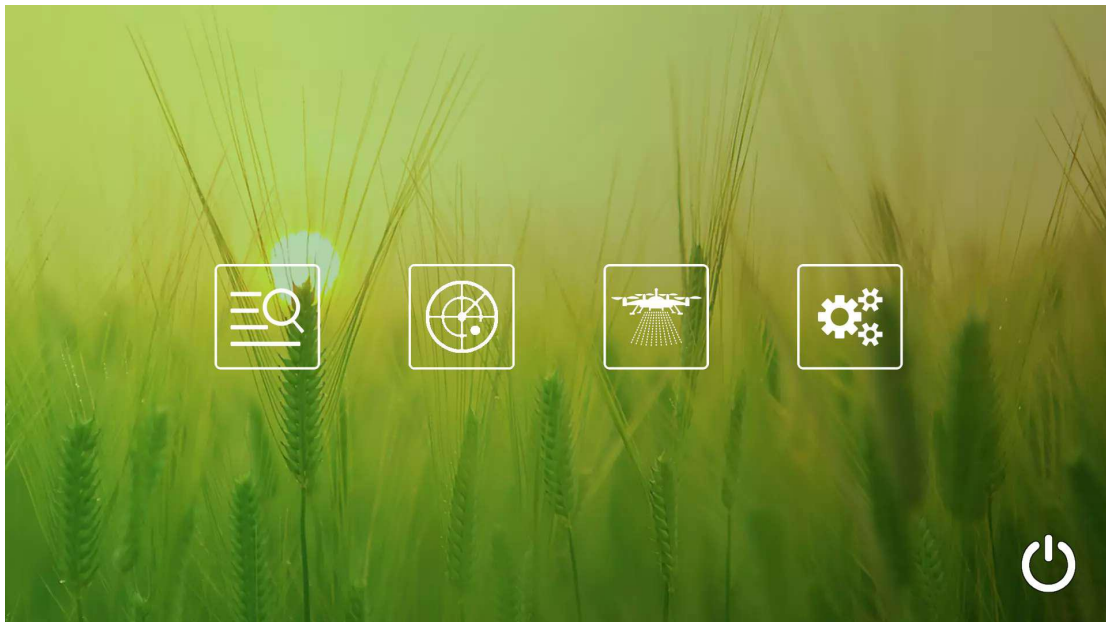

Figure 5-1
2. After GCS installation,the label will be appeared as figure 5-1.